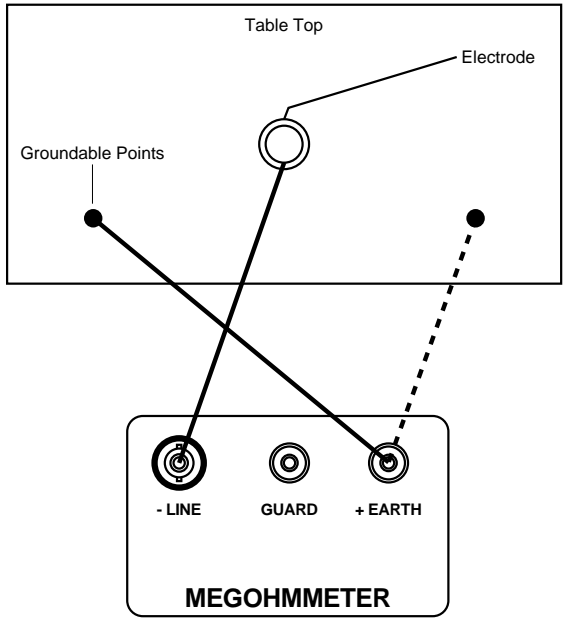

Figure 17
4. Repeat the above procedure with the megohmmeter connected between one weight and a known electrical ground (see Figure 17). In the case of an uninstalled floor sample as in step #1, the ground should be part of the sample panel. In the case of an installed floor sample as in step #2, the ground should be a water pipe or known electrical ground. Interchange the leads at the megohmmeter for each measurement and report the average value obtained as the value for that measurement.
Resistance from test electrode to a groundable point (Figure 17):